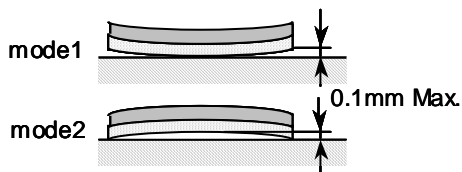

Fig.1 Coplanarity measurement
- 1) Coplanarity of bottom side of terminals are less than 0.1mm. Measured condition is as follows (Fig.1): Put the product on the level surface, and measure the gap between the product and the level surface.